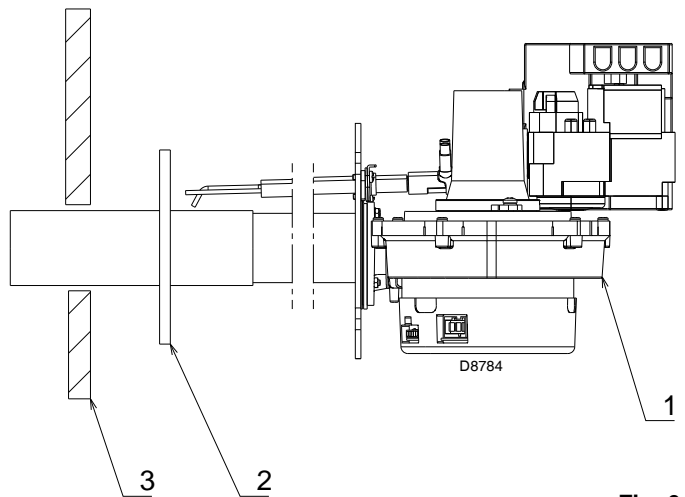

Fig. 6
- fix the burner 1)(Fig. 6) to the boiler door 2) using the 4 screws and (if necessary) the 4 nuts supplied to the standard equipment, interposing the insulating gasket 3).